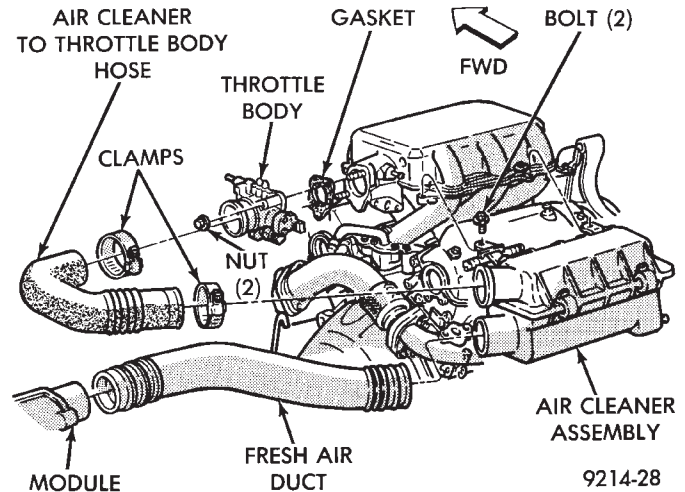

Fig. 1 Throttle Body Assembly
- (1) Disconnect negative battery cable.
- (2) Remove air cleaner hose clamp to throttle body and remove hose. (Fig. 1)
- (3) Remove throttle cable and transaxle linkage.
- (4) Disconnect automatic idle speed (AIS) motor and throttle position sensor (TPS) wiring connectors.
- (5) Disconnect vacuum hoses from throttle body.
- (6) Remove throttle body to intake manifold attaching nuts. Remove engine harness wiring bracket.
- (7) Remove throttle body and gasket.
- (8) Reverse the above procedures for installation. Tighten throttle body mounting nuts to 25 N•m (225 in. lbs.) torque.